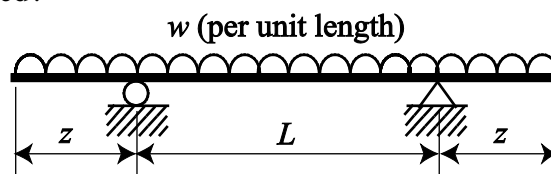

Figure 3
3. The beam shown in Figure 3 has a span L between supports, and an overhang z at each end. It is straight when unloaded, and it is elastic, with uniform flexural stiffness B .